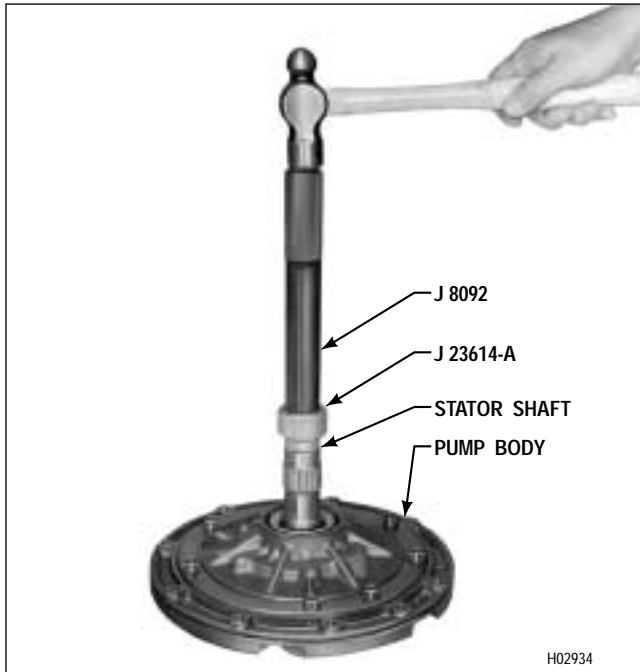

Figure 6-27. Installing Stator Shaft Front Bushing (AT 500 Series Models)
(5) Coat the OD of a new **non-prebored** replacement bushing 18 (Foldout 7,B) with Loctite® 601 sleeve retainer, or equivalent. Install bushing 18 into the stator shaft with J 23614-A to a depth of flush to 0.005 inch (0.127 mm) below the end of the shaft (Figure 6-27). Remove any excess Loctite® from the shaft housing.